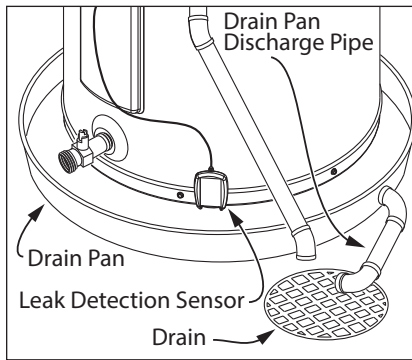

Figure 6 - A suitable drain pan piped to an adequate drain can help protect flooring from leaks and drips.
- Suitable drain pan (Figure 6 on page 10)
- Install a suitable drain pan (available at your local plumbing supplier) under the water heater (Figure 6) to catch condensation or leaks in the piping connections or tank. Most codes require, and we recommend, installing the water heater in a drain pan that is piped to an adequate drain. The drain pan must be at least 2” (50 mm) wider than the diameter of the water heater. Install the drain pan so the water level would be limited to a maximum depth of 1-3/4” (45 mm).
- In a suitable drain pan piped to an adequate floor drain or external to the building (Figure 6).